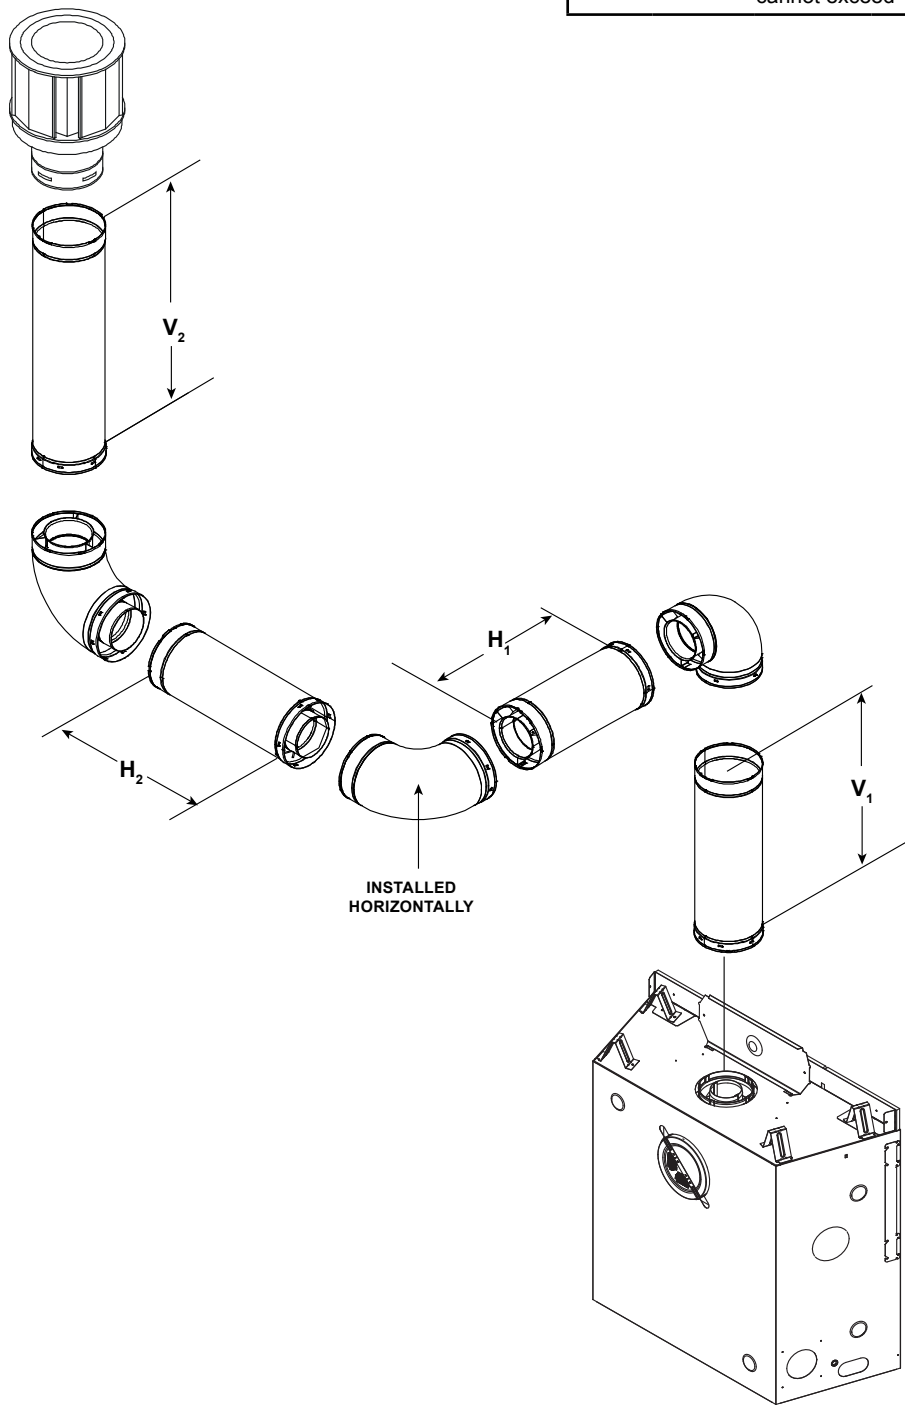

Figure 4.17
- **Top Vented:** A maximum of four 90° elbows (or eight 45° elbows) may be used in any vent configuration. Some elbows may be installed horizontally. See Figure 4.17 and 4.18.